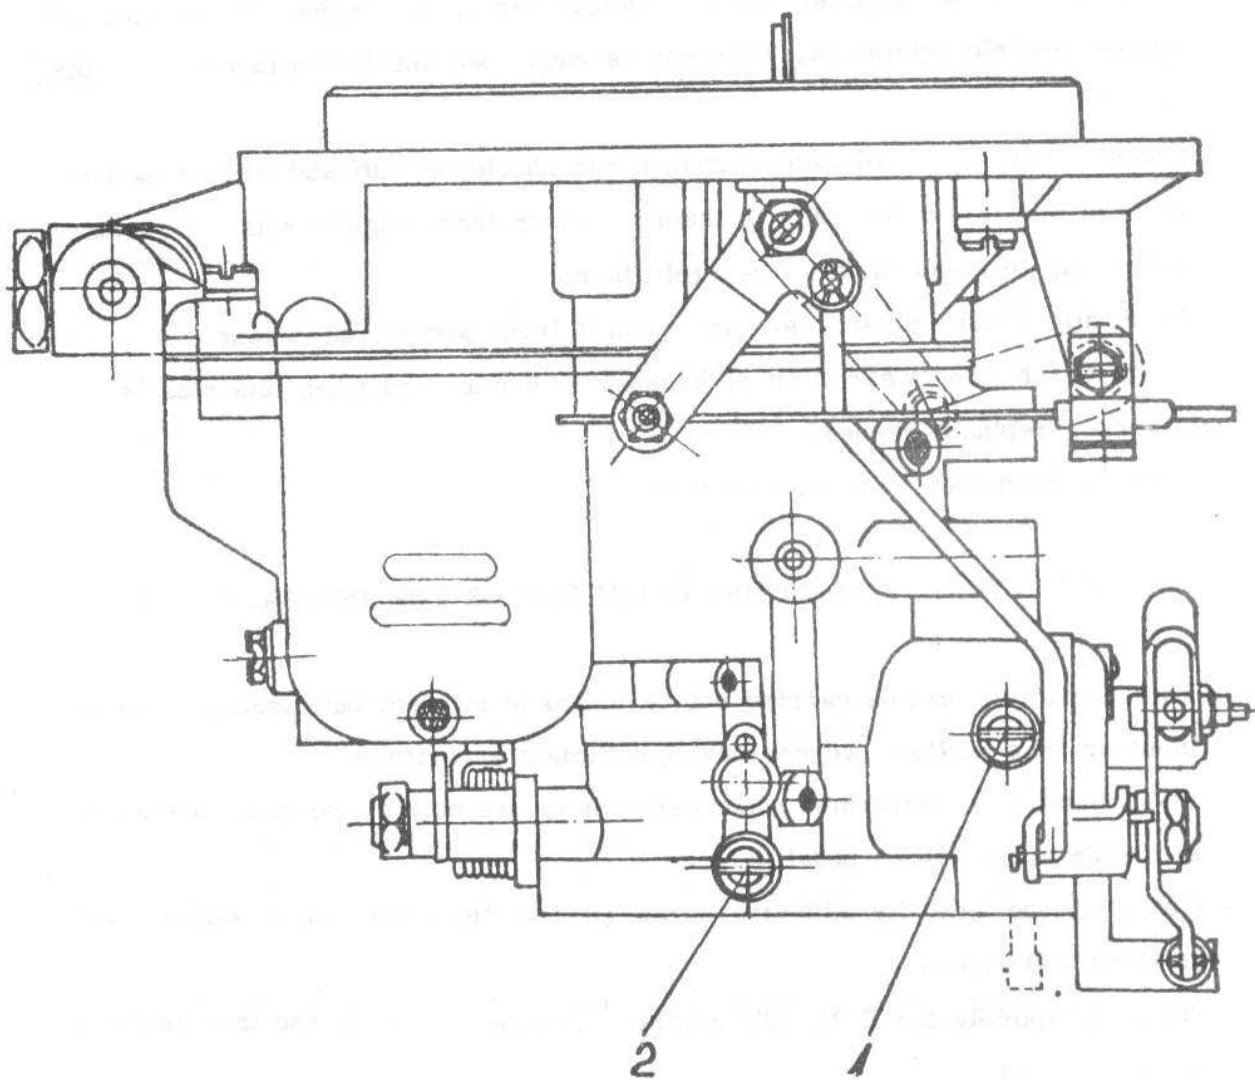

Fig.2.25. LOCATION ON CARBURETTOR OF IDLE SPEED ADJUSTING SCREWS.
- Operating the butterfly adjusting screw (1) (see fig. 2.25), adjust engine speed at about 750 r.p.m.
- Screw completely the R.H. idle mixture adjusting screw (2) and then unscrew it 1- 25 turns.
- After that, operate again the butterfly adjusting screw (1), untill the engine speed of 750 r.p.m. is obtained.